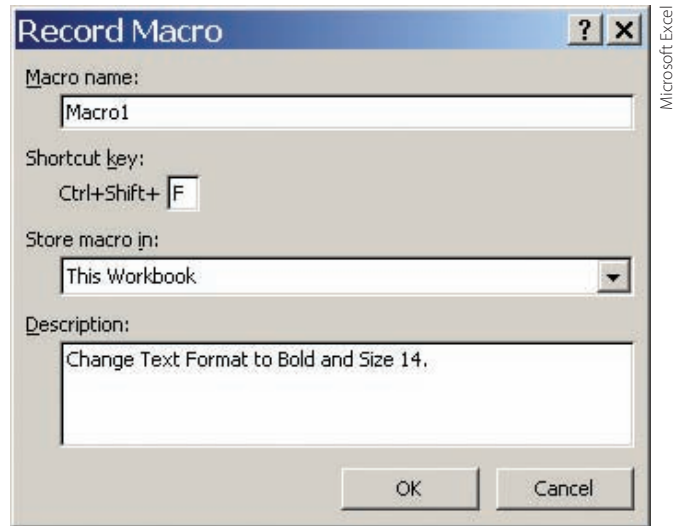

FIGURE 14.54
2. Click on the **Developer** tab, and then in the Code section click on Record Macro. A dialog box will appear next. In the **Record Macro** dialog box, for the Macro name type in *ChangeFormat*; in the Shortcut key block (after Ctrl+) type *F*; and for the Description type *Change Text Format to Bold and Size 14*. The information that you need to type in the Record Macro fields is shown in Figure 14.54.